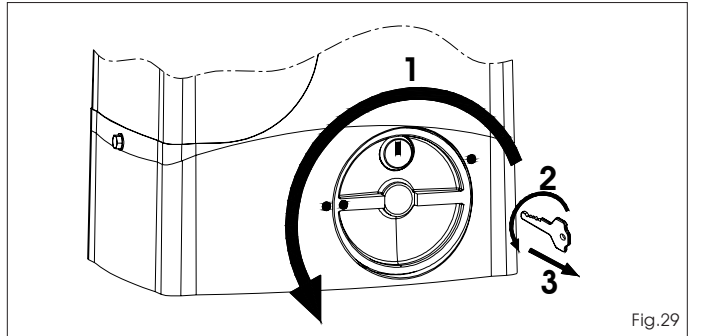

Fig.29
- 1) Turn the release system clockwise, until its stop is reached, Fig. 29 ref. 1.
- 2) Turn the key anti-clockwise and remove it from the lock, Fig. 29 ref. 2 and 3.